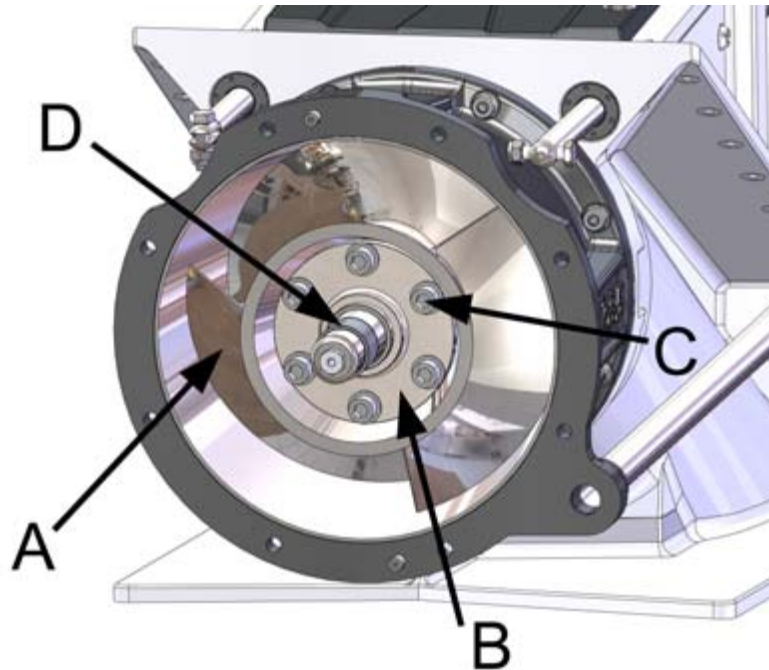

Figure 37. Impeller
The impeller (figure 37, point A) is attached to the jet's main shaft. As the impeller rotates, it generates pressure that is then transformed into the flow rate.
The impeller is attached to the shaft with a mounting flange (figure 37, point B), which is attached to the impeller with bolts (6 pcs, figure 37, point C). The torque is transmitted to the shaft using a key. The impeller is held in place by a sleeve (figure 37, point D) attached to the rear end of the shaft with a screw.
1. Open the screw keeping the sleeve (figure 37, point D) at the rear end of the shaft in place and pull the sleeve off the shaft.